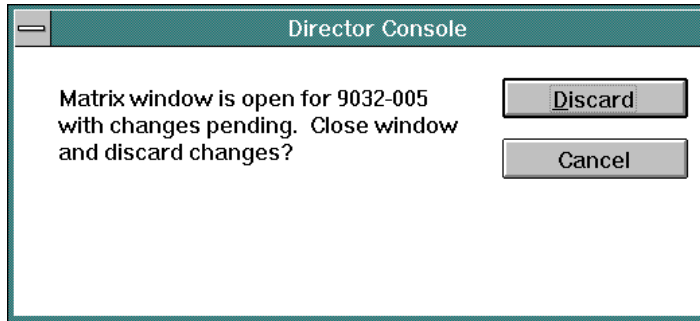

Figure 64. Changes Pending Dialog Box
**Note:** When changes are made to a *Matrix* window but not saved or activated, an attempt to close the window or exit causes the Console to display the following verification dialog box (Figure 64).